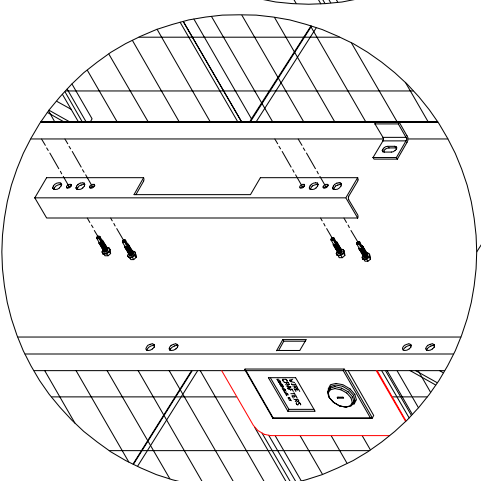

Fig. 3
7. If door has header tube, locate and install chain bolt receiver with two self drilling screws. See Fig. 3.